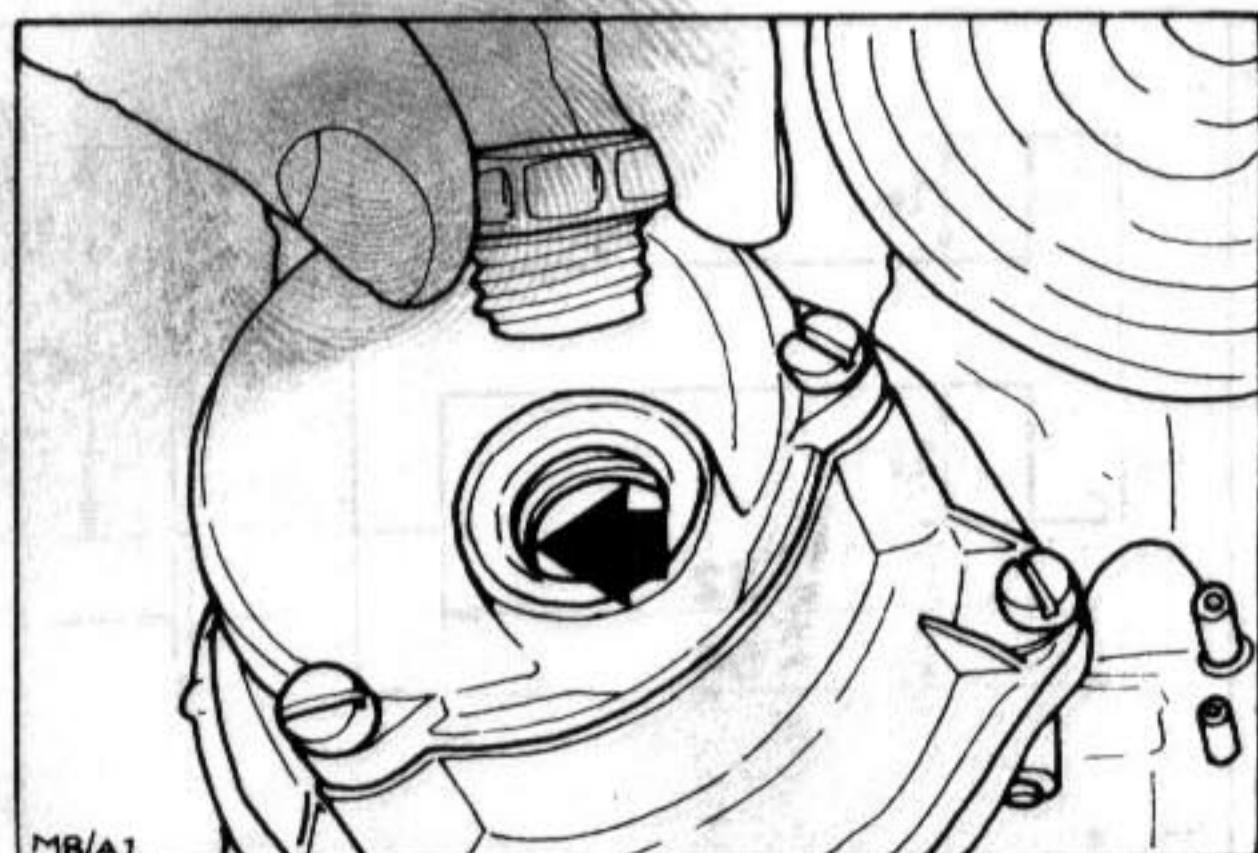

Fig. 1 Checking damper oil level
- Oil level in damper reservoir up to bottom edge of threads at filler hole (Fig. 1). ATF.